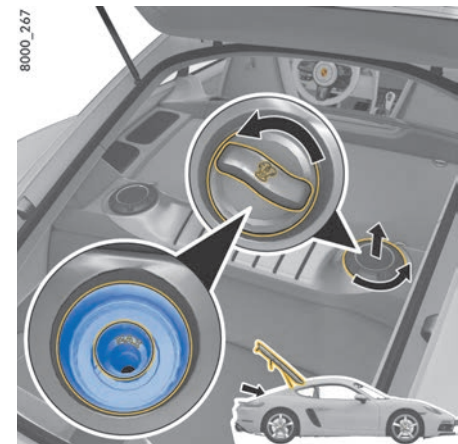

Fig. 69: Cayman coolant reservoir
2. Cayman: Turn cap anticlockwise and remove (Fig. 69).
8. Cayman: Fit cap and turn clockwise (Fig. 69).